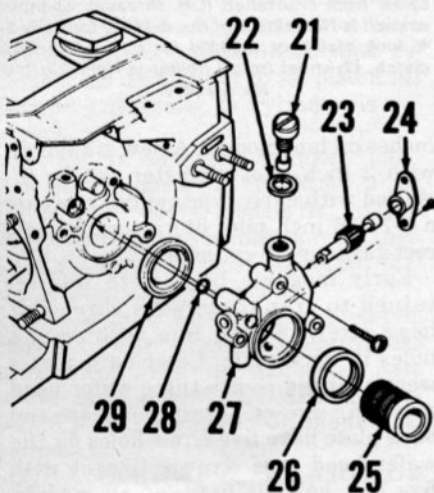

Fig. HL119—Exploded view of automatic chain oiler pump assembly used on models so equipped. Worm gear (25) is driven by engine crankshaft.
Refer to exploded view in Fig. HL119. Pump body (27) is attached to crankcase and worm gear (25) is driven by crankshaft.
Worm gear (25—Fig. HL119) can be removed from pump body. To remove pump plunger (23) for inspection, first remove flange bearing (24) and cam screw (21). Pump body and plunger are serviced as a matched assembly only. Flange bearing retaining screws are available separately. Pry felt dust seal (26) from pump body and install new seal using suitable driver. Install new gasket (22) on cam screw and use new "O" ring (28) when reassembling and reinstalling pump. Tighten pump retaining screws evenly to a minimum torque of 40 inch-pounds.